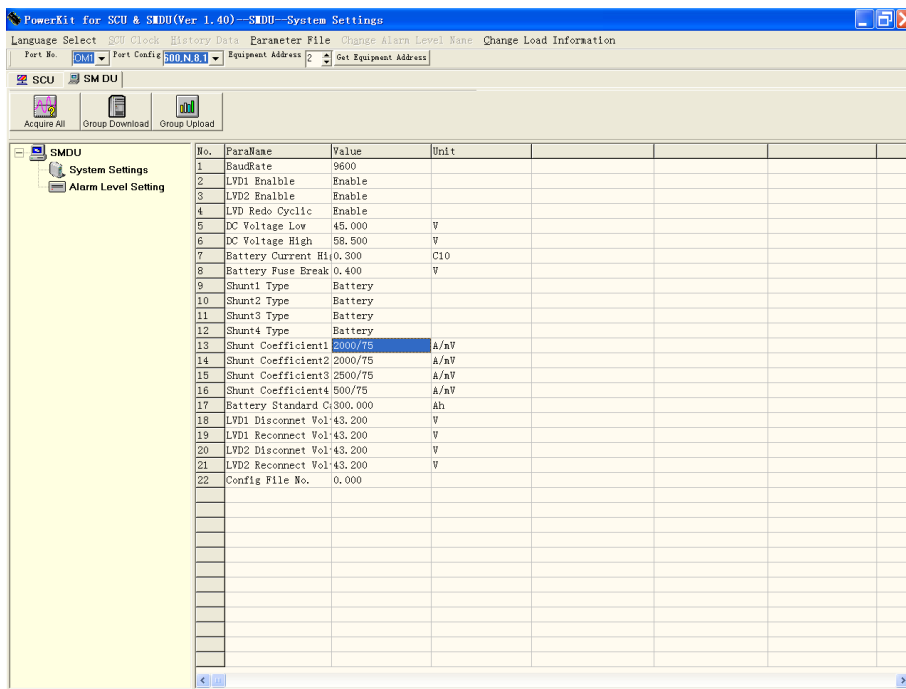

Figure 7-6 Changing parameter
7. Change the shunt coefficient 1 to '2000/75', click Enter, as shown in Figure 7-6.